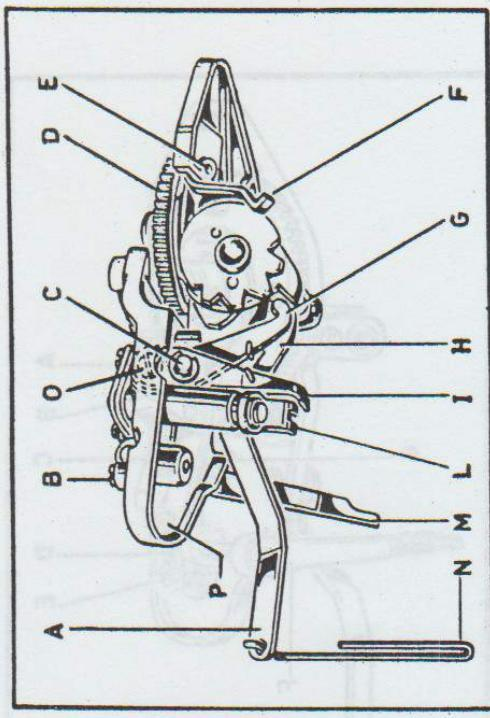
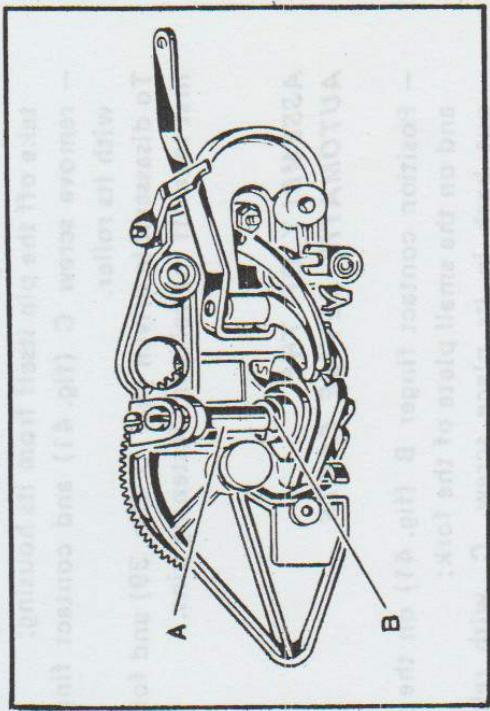

Fig. 39
Fig. 40
- remove the three screws fastening plate P (fig. 39) to the arm;
- take screw E off (fig. 39), which is underneath gear D and accessible through one of its holes;
- remove benzing ring B (fig. 40) and relevant cam group with its pin A;
- loosen screw B (fig. 39);
- take off pin C (fig. 39) by removing contact finger G for needle displacement and the lever operating the feed contact finger A;
- position lever A of the contact finger for feed operation (fig. 39);
- insert pin A (fig. 40) and relevant cams into the lower bosses on the plate;
- position spring F (fig. 39);
- This being done, insert the control knob in the special hole of pin A (fig. 40) and make sure, turning it to the left and to the right, that spring F (fig. 39) exerts a sufficient pressure on the toothed cam as to keep it motionless, while allowing it, on the other hand, to change its positions through a trigger-action movement.
- To disassemble driven gear D (fig. 39) and fork L, first take off the relevant fastening pins.
- loosen adjusting screw O between lever I and contact finger G (fig. 39); the spring, by stretching itself out, positions contact finger G and lever I;